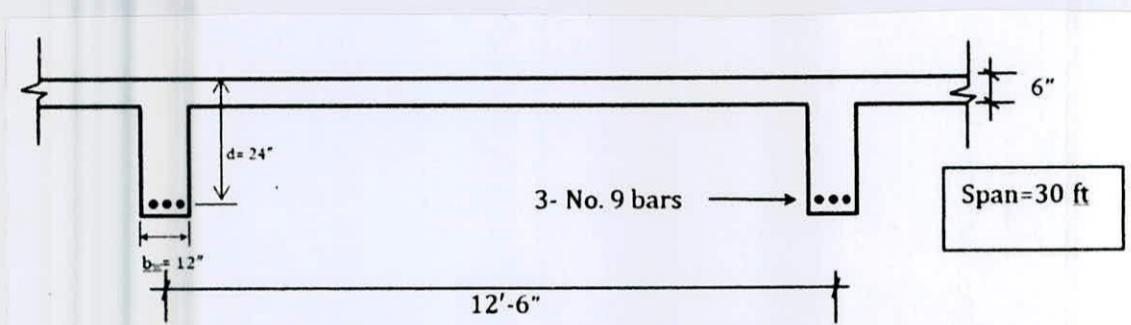

Figure 4: Section at mid span
7. (a) A floor system consists of a 6 in. slab supported by continuous beams with 30 ft span and centre to centre spacings of 12 ft. 6 in. as shown in Figure 4. Slab and beam are monolithically cast. Beam web width $b_w = 12$ in and effective depth = 24 in. At mid span of the beam, there are 3#9 bars at the bottom. What is the nominal and design positive moment capacity of the beam at mid span? Check ε_t . (17)